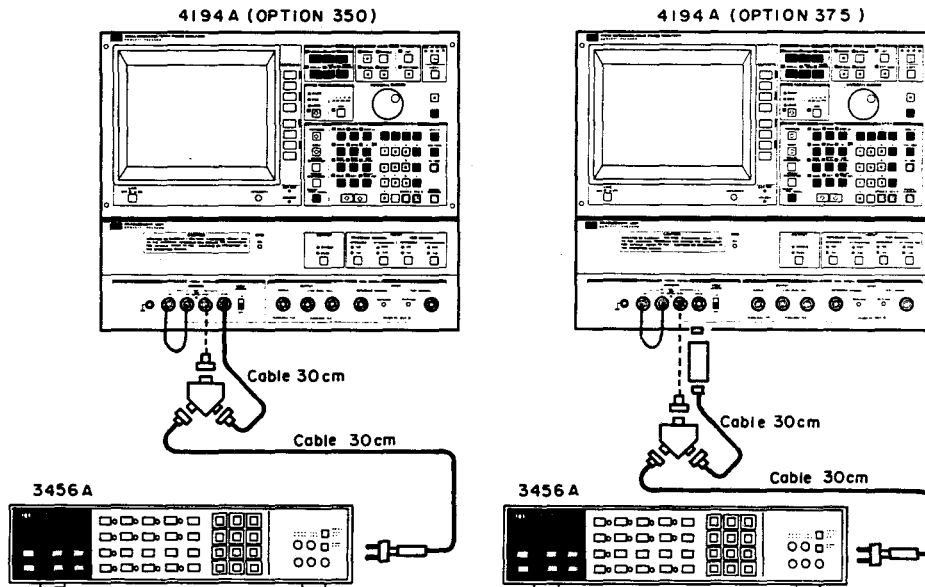

Figure 4-33. Impedance Measurement V Level Monitor Test Setup 1
1. Set up the equipment as shown in Figure 4-33. Connect the 11667A's INPUT PORT to the Hpot terminal.